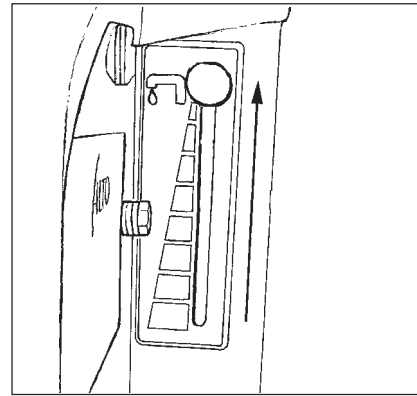

Figure 42
1. Close the solution flow valve by sliding the handle to its up most position (see figure 42).